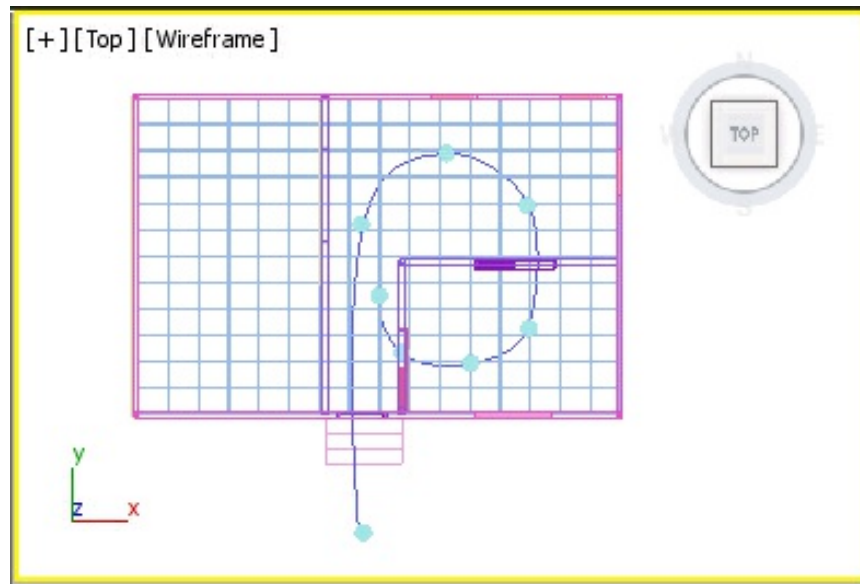

Figure 14-70 A line created to be used as a path
6. Use the cones as a guide to create a line, starting from the bottom cone, as shown in Figure 14-70.